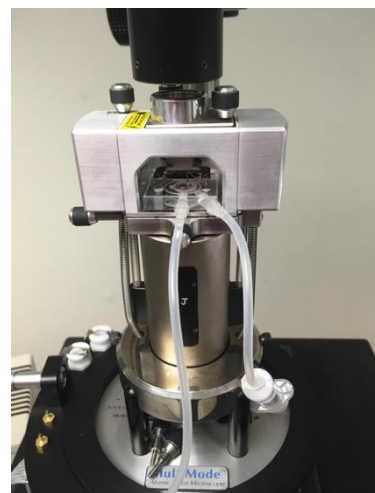

Figure 10. Solution-state imaging under flow
- Pull sample into a syringe and remove as much air as possible, then introduce using the inlets and outlets shown in **Figure 10**.